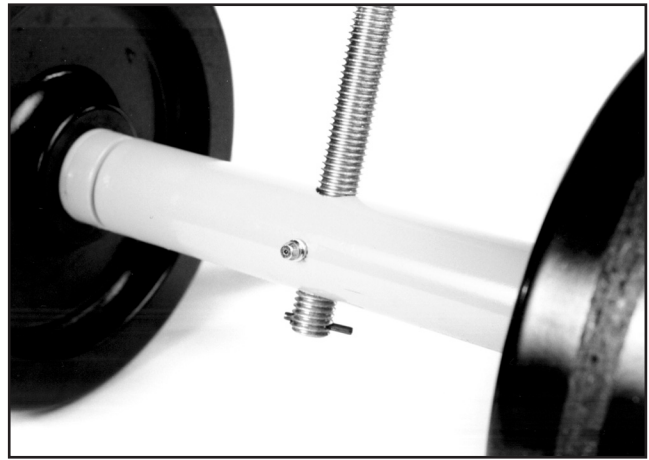

FIGURE 29
a) To lubricate the Back Saver™ Blade Control System jackscrew. Keep the jackscrew properly lubricated with grease to minimize friction when operating the blade control lever. Excessive lubrication will attract foreign material accumulations that can reduce jackscrew service life. FIGURE 29.